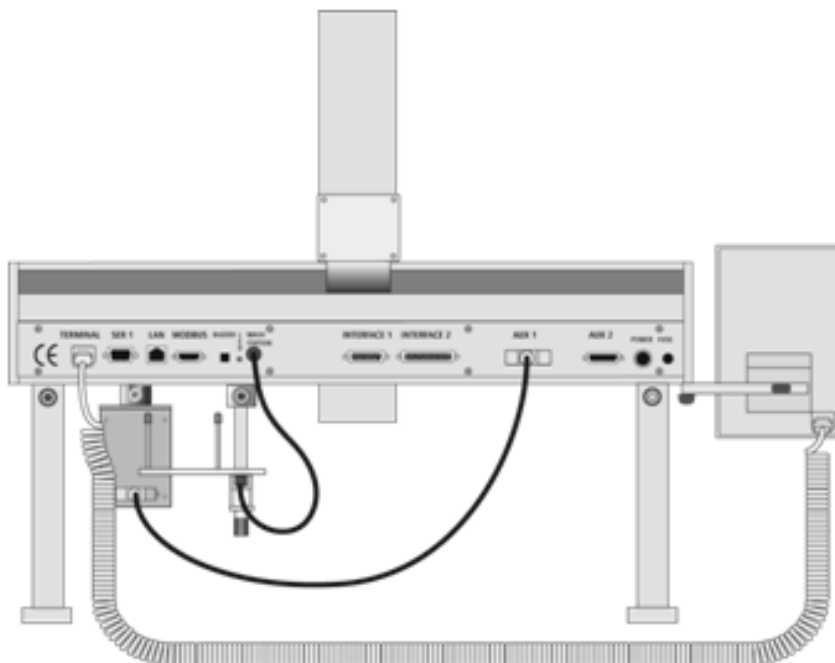
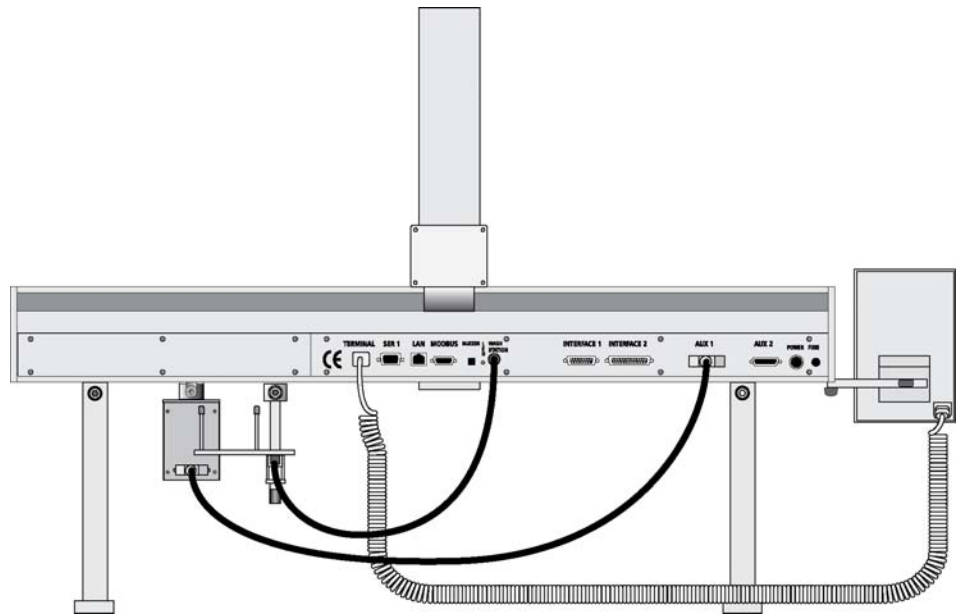

Figure 33 Electrical Connections - LC Injectors HTC
Figure 34 Electrical Connections - LC Injector HTS
- 1 Before defining the object positions, make sure the LC Injection Valve, Fast Wash Station and Keypad Terminal are correctly connected to the X-axis rear side (see Figure 33 on page 86 or Figure 34 on page 87).